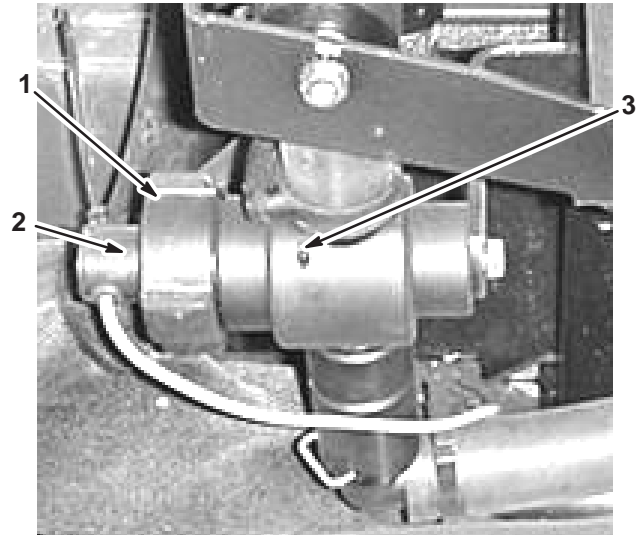

Figure 54
1. Remove the retaining cap from the flowmeter body (Fig. 54).